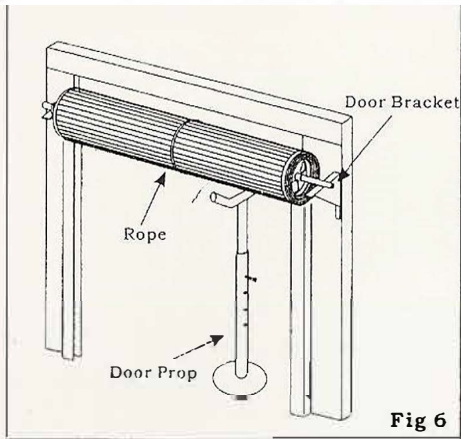

Fig 6
- 4.2 Raise the door out of the door guides and tie a rope around the center to secure the roll. Fig 6.